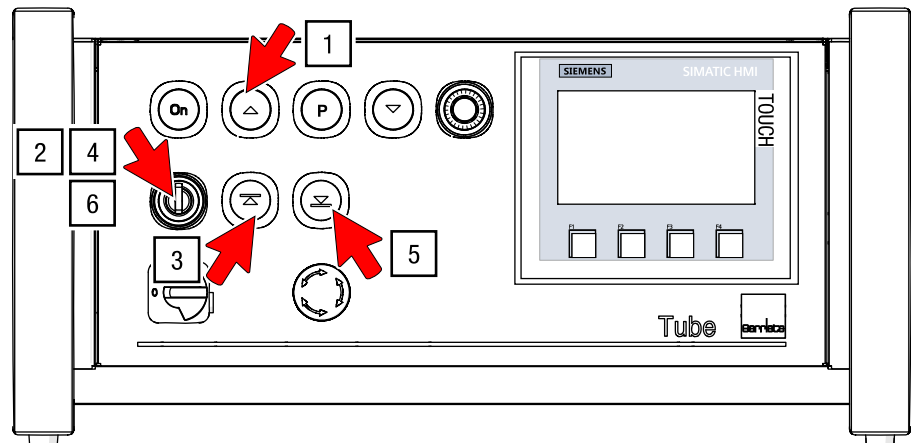

Fig. 41: Approaching the emergency limit switches – G-FRAME control
1. Hold down the “Up” button until the roller screen has reached the operating limit (see Fig. 41).
2. Turn the key switch to the right to enable the override command (see Fig. 41).
3. Press the “Emergency limit up” button and move the roller screen upwards towards the emergency limit switch (see Fig. 41).
4. Turn the key switch to the left to activate the “*Clear emergency limit*” command (see Fig. 41).
5. Press the “Emergency limit down” button to lower the roller screen out of the emergency limit switch (see Fig. 41).
6. Return the key switch to the centre position and move to the target position in normal operation (see Fig. 41).